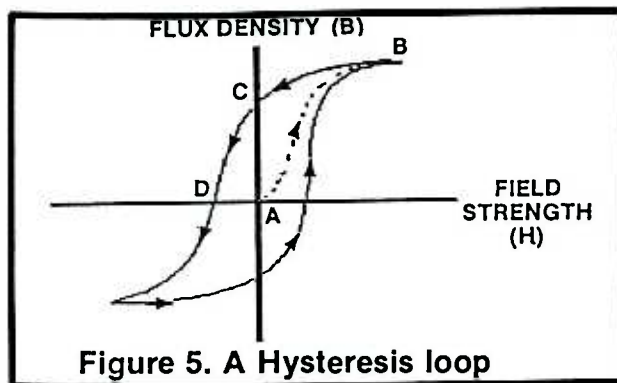

Figure 5. A Hysteresis loop
Figure 5 shows a graph called a Hysteresis Loop where the vertical axis is labelled B for flux density and the horizontal axis is labelled H for field strength. An interesting thing happens when you use an electromagnet to magnetize a ferromagnetic material: To begin with, before any current flows through the coil, there is no magnetic field strength present and so no flux density (point A). As current is applied field strength is created by the electromagnetic field set up and this causes a certain flux density to be present in the ferromagnetic material (this material could be the core of the electromagnet or adjacent but within the field). As the field strength (H) is increased eventually the flux density levels off and even though H is increased B will stay the same. (Point B) This is called flux saturation.
Now let's start to reduce the current through the coil (and hence the field intensity). The arrows in Figure 5 show that the flux density does not follow the same path back to zero. In fact, when the field strength is zero, B is still quite high. (Point C). Why would this be?